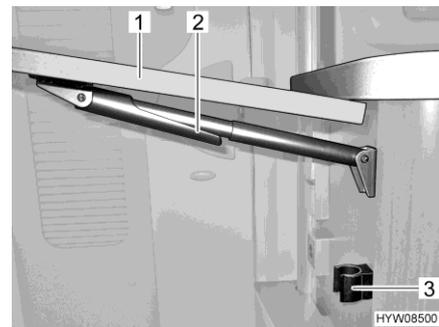

Fig. 58 Folding away the folding worktop
- Hold the folding worktop (Fig. 58,1) at the edges and lift gently. With your other hand, swing down the fixture (Fig. 58,2) on the telescopic holder.
- Fold down the table top until the telescopic holder clicks into position in the holder (Fig. 58,3).